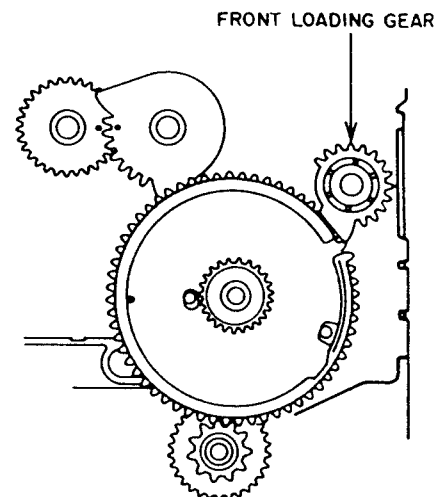
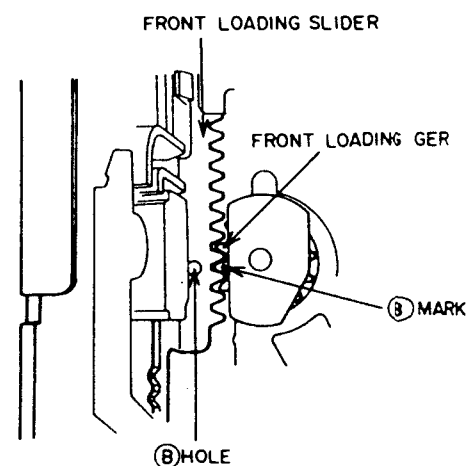

Fig. 3-12
Fig. 3-13
- 3) Attach the FRONT LOADING GEAR as shown in Fig. 3-12. At this time, align the (B) mark on the FRONT LOADING GEAR with the (B) hole of the FRONT LOADING SLIDER as shown in Fig. 3-13.